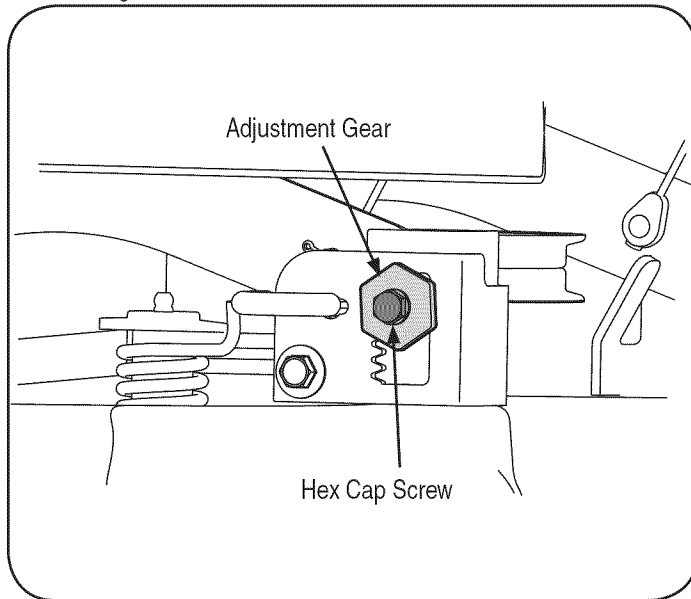

Figure 15
4. Working from the left side of the tractor, loosen, but do not remove, the hex cap screw in the left deck adjustment bracket. See Figure 15.
5. To even the deck turn the adjustment gear, located immediately behind the hex cap screw, clockwise (rearward) to lower the left side of the deck. Turn the gear counter-clockwise (toward front) to raise the left side of the deck. See Figure 15.